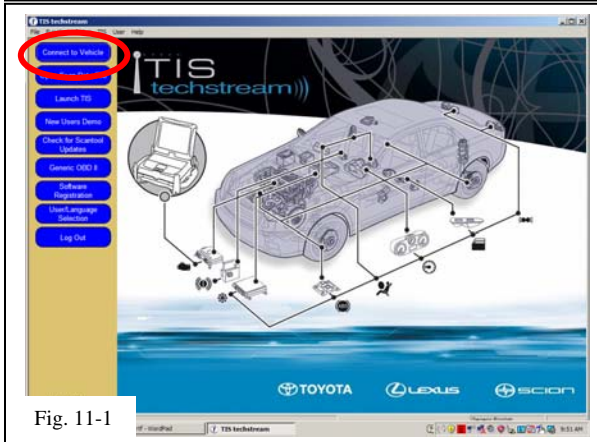

Fig. 11-1
- Click “**Connect to Vehicle**” button. (Fig. 11-1)